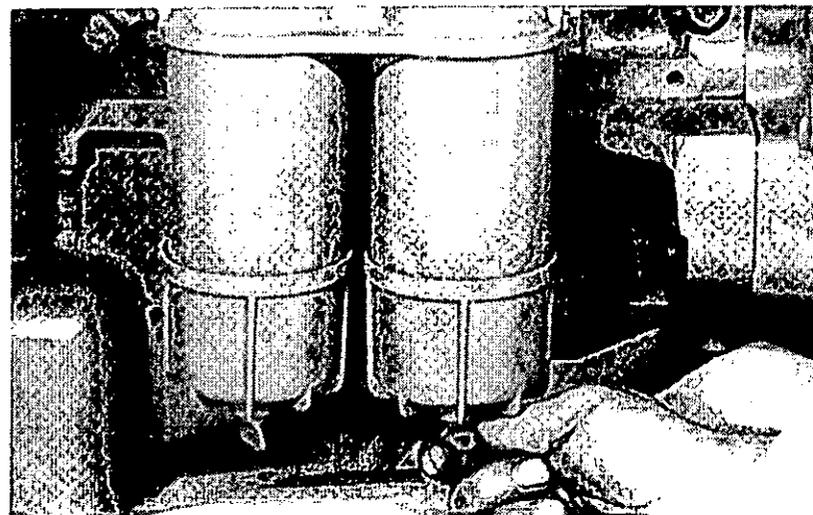

Fig. 13 Fuel filter drain
- 1 Thoroughly clean the outside of the filter assembly. Where drain taps are fitted to the filter bowls, drain the fuel from the filter (see fig. 13).